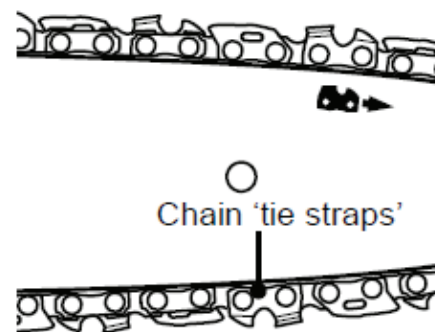

Fig. 11
**NOTE:** The chain tension can not be adjusted with the tension wheel (19) tightened - it must be loosened first.
1. Place the product on a suitable flat surface with the side cover (12) facing upwards.
2. Check the chain tension using one hand to lift the saw chain (14) against the weight of the product. The correct chain tension is achieved when the saw chain can be lifted by approximately 2 - 4 mm from the guide bar (13) in the centre (Fig.11, 12).